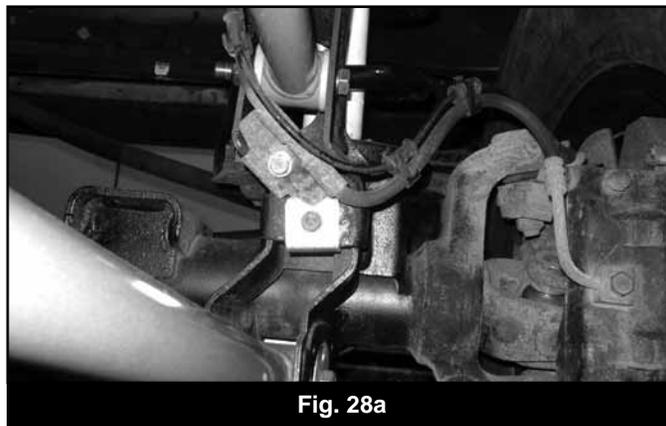

Fig. 28a
74. Install brakeline relocation brackets to axle with factory hardware. Attach factory brakelines to the relocation brackets with 5/16" x 1" hardware (#784). Tighten to 25 ft-lbs. (Fig 28a, 28b)